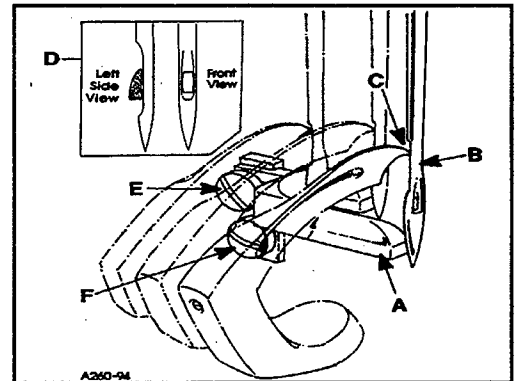
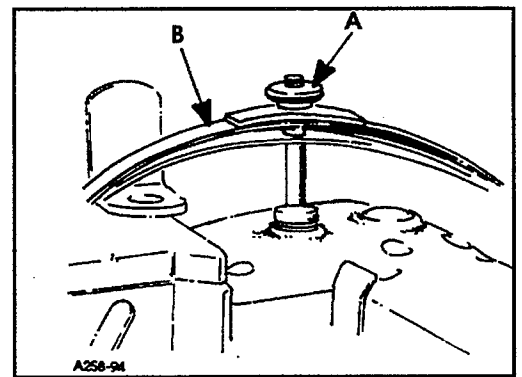
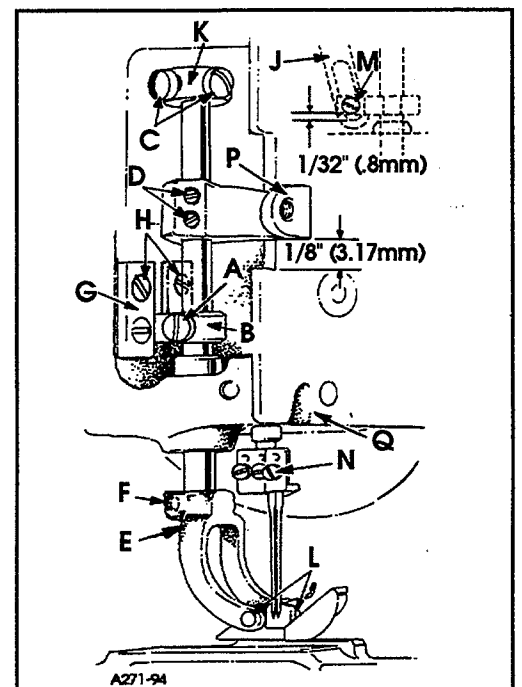

FIG. 13
FIG. 14
FIG. 15
Set the rear needle guard (A, Fig. 13) horizontally so that it barely contacts needles (B) when at its extreme forward position. If adjustment is necessary loosen screw (E) and move guard front to back as required. It should be set vertically as low as possible, yet have its guarding surface in contact with the needles until the points of the loopers (C), moving to the right, are even with the right side of the needles. If adjustment is necessary loosen screw (F) and move guard and holder up or down as required.
NOTE: When installing needle it should be parallel with the eye in line of feed. If adjustment is necessary, loosen screw (N, Fig. 15) in needle head and rotate needle to attain adjustment (D, Fig. 13).
Remove presser bar leaf spring (B, Fig. 14) and nut (A). Loosen screw (A, Fig. 15) on presser bar guide (B). Loosen screws (C) in upper collar and screws (D) in needle lever thread pull-off lever. Slide presser bar upward high enough to slip on presser foot yoke (E) with foot attached and tighten screw (F) on flat of presser bar. Position foot so that the needle holes in the foot line up with the holes in the throat plate. Tighten screw (A).
With foot properly aligned on throat plate and presser bar guide (B, Fig. 15) securely fastened to presser bar, adjust both guide plates (G) to attain above setting. Tighten four screws (H).
Reinstall presser bar leaf springs (B, Fig. 14) and nut (A), with presser foot resting on throat plate.
NOTE: There should be a minimum 1/32" (0.8mm) clearance between screw (M, Fig. 15) and the bottom of the slot in link (J).
Regulate the pressure on the presser foot same as the upper feed roller by turning the presser spring regulating nut (A, Fig. 14) located on top of leaf type spring (B) at the rear of machine.
To remove just the presser foot, remove screws (L, Fig. 15) and replace foot, retighten screws (L).